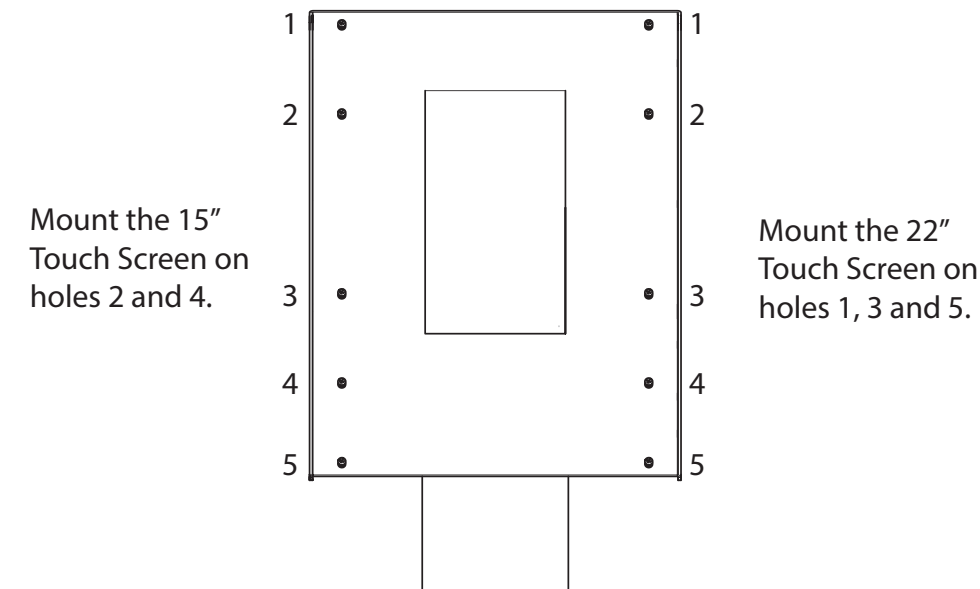

Figure 8: Mounting holes
1. Align the top two mounting holes of the Touch Screen with the top holes on the stand. See Figure 8.